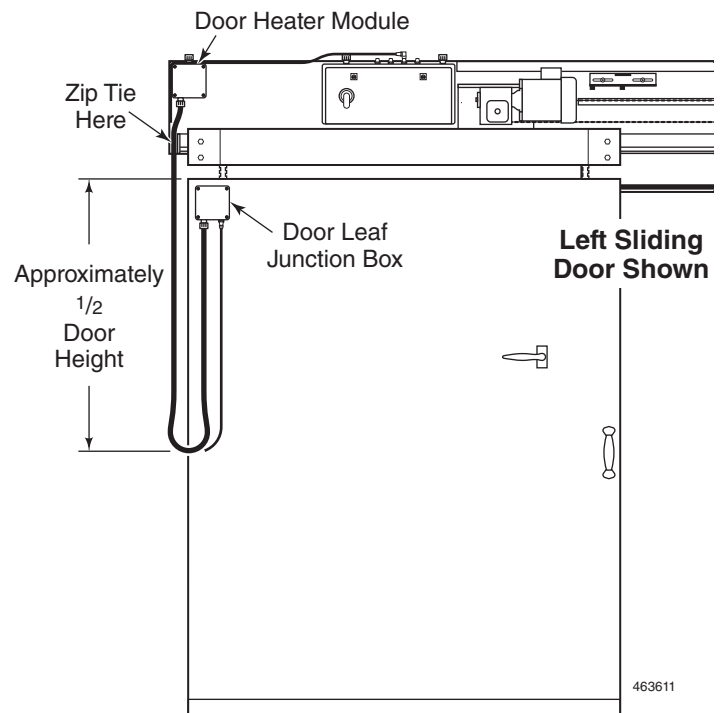

Figure 17
In the open position, the cable loop from the Door Heater Module(s) on the Header to the Door Leaf Junction Box should extend approximately half way down the door. See Figure 17.
2. Verify that each cable is firmly attached to the end of the Door Track with a zip tie. See Figure 17.